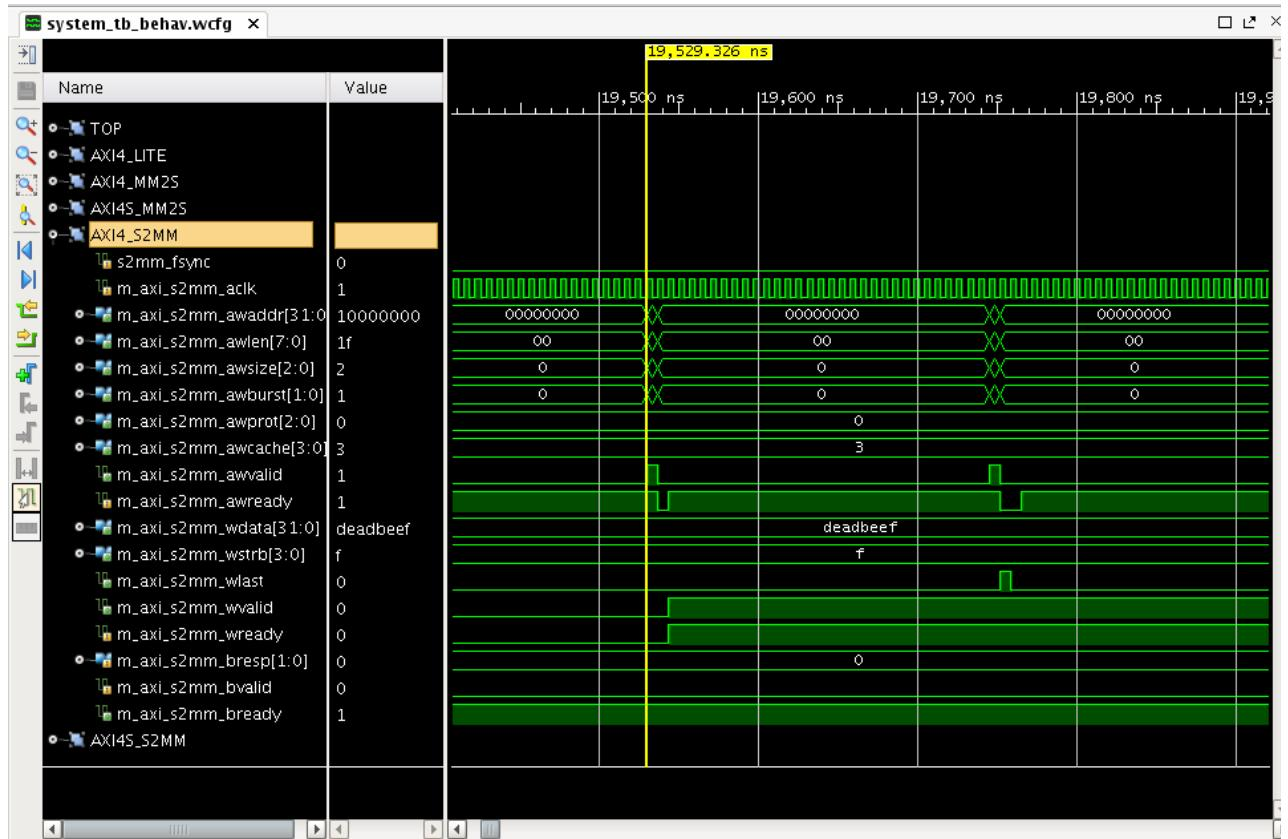

Figure 4: AXI4_S2MM–First Write
4. Expand the AXI4_S2MM group and zoom in between 19.5 μ s and 19.8 μ s. This shows the first write transaction. Only one write transaction (address phase) occurs on the write side because the AXI VDMA core is concurrently getting write data from the AXI4-Stream master BFM. `wlast` is asserted after the 32 data beats are written to the Zynq-7000 BFM S_AXI_HP0 interface (the maximum burst of the AXI VDMA core is set to 32 data beats). This is shown in Figure 4.